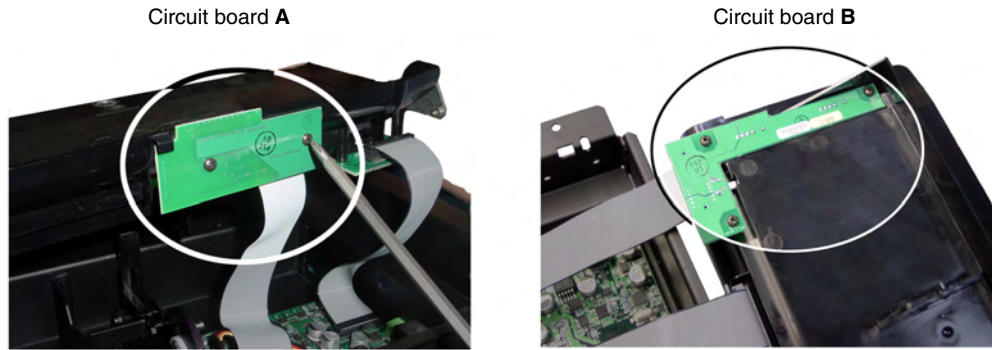

FIG. 24 Removing the attached circuit boards (A & B)
7. Locate the exposed MVP Interface Connector pin circuit board and use the screwdriver to remove this board from the combo unit by unscrewing the two screws (A in FIG. 24).
8. Carefully place the first circuit board aside and rotate the black pivot combo unit over to expose the second circuit board attached to the backside of the unit (**B** in FIG. 24).
9. Carefully remove this second board by unscrewing the three screws and then gently placing this board aside (**B** in FIG. 24).
1. Gently align the second circuit board (**B** in FIG. 24) on the underside of the silver cradle pivot unit shown in FIG. 24.
3. Rotate the pivot unit back over to expose the installation location for the MVP Interface Connector pin circuit board (**A** in FIG. 24) and use a grounded Phillips-head screwdriver to secure this remaining board to the silver pivot unit by screwing in the two securing screws.